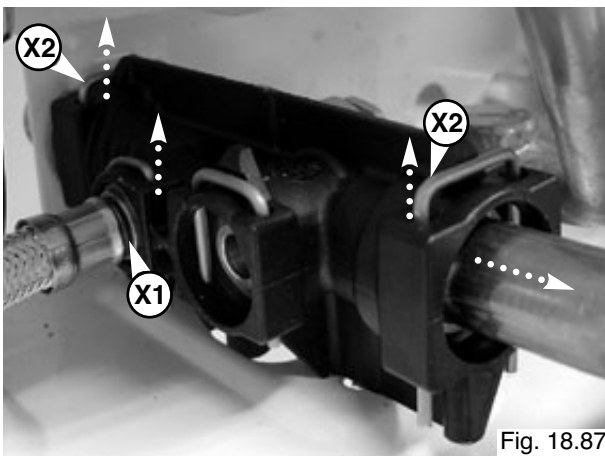

Fig. 18.87
2. Remove the clip "X1" to liberate the DHW expansion vessel (see Fig. 18.87);
3. Remove the two clips "X2" and remove the pipe (see Fig. 18.87);